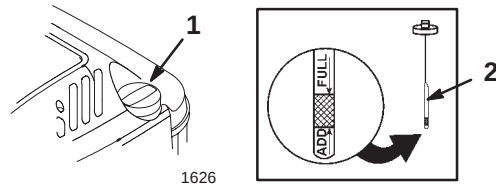

Figure 6
Before each use, ensure that the oil level is between the *Add* and the *Full* marks on the dipstick (Fig. 6).
2. Clean around the dipstick (Fig. 6).
6. Read the oil level on the dipstick (Fig. 6).